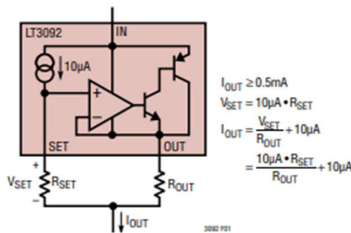

Figure 2. LT3092 Current Source Circuit
The Current Source required to drive the sensor signal is implemented with one Linear Technologies LT3092 integrated circuit (IC) for each sensor channel. Parameters for consideration are the reference current ( $I_s$ ) as determined by the in situ current of the OLS to be tested; the compliance voltage ( $V_{dc}$ ) determined from the required maximum resistance to be measured at  $I_s$ . The Elevate OLS resistance ranges from  $100\Omega$  -  $1100\Omega$  with an overrange resistance of  $2100\Omega$  with an in situ of  $14.7\text{ma}$ , producing a maximum signal voltage  $V_s$  of  $16.7\text{V}$  at  $1100\Omega$ . We assume that the overrange resistance does not have to be accurately measured, only detected and that the Laser uses a  $24\text{V}_{DC}$  source that can be used to power the Current Source circuit  $V_{dc}$ , where the maximum resistance measurement will be  $1632\Omega$ . With  $V_{dc}$  set to nominal  $224\text{V}_{DC}$  following the LT3092 Datasheet Application Information page 9. Then  $15\Omega$  is selected for  $R_{OUT}$  and  $22.0\text{K}\Omega$  is calculated for  $R_{SET}$  as shown in Figure 2.